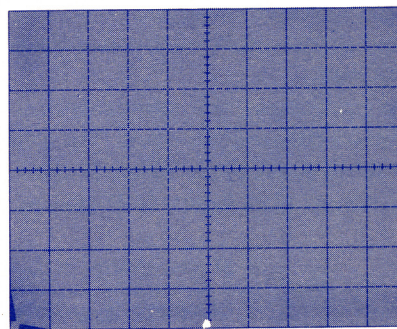

Figure 3-1. Display of reverse gate leakage I_{GSS} .
- 5) Compare to specifications — Check to see if vertical displacement indicates specified current [within 1/2 div, or 10 nA at 2 nA/div, or with 5 divs at 200 pA/div]. See Figure 3-1. See Note 2.